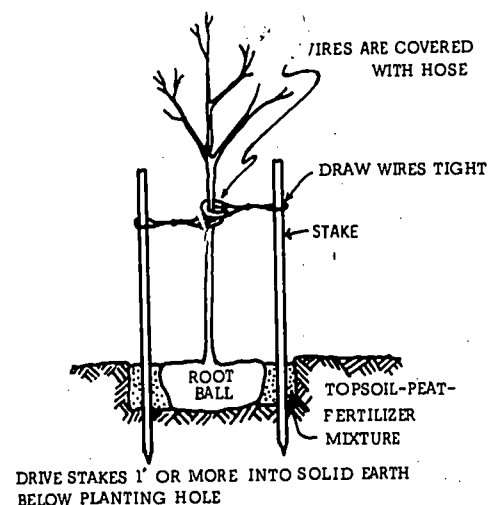

Fig. 67-1. Tree Properly Planted and Held Firmly with Stakes
7. Support the plant with stakes, if needed, to hold it vertically. See Fig. 67-1.